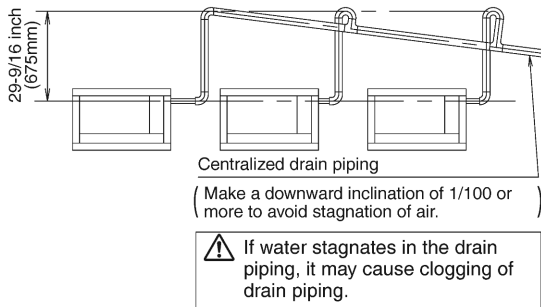

Fig. 16
- To avoid the attached drain hose (2) getting excessive force, do not bend nor twist it. It may cause water leakage.
- In case of centralized drain piping, carry out piping work according to the procedure shown in the following Fig. 16.